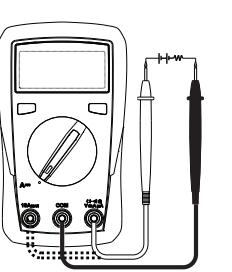

Figure 3
6. DC Current Measurement (see Figure 3)